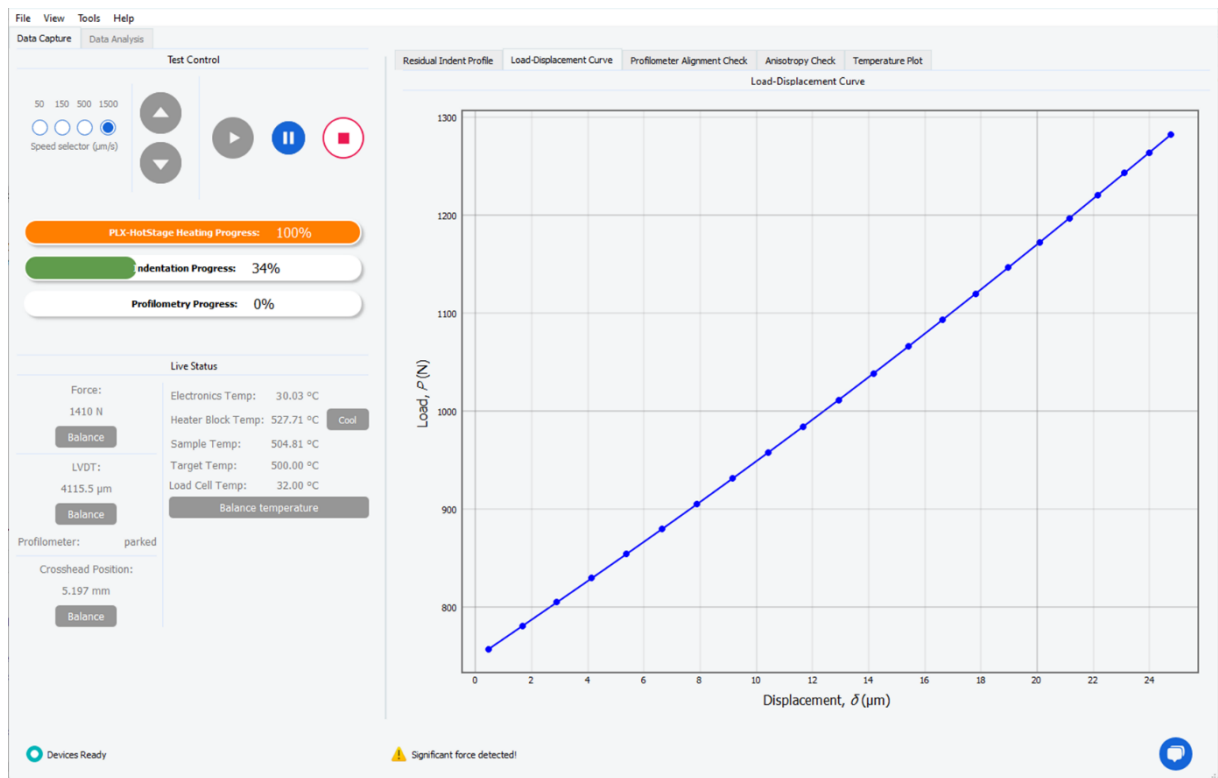

Figure 3.11 The window that appears when the indentation starts.
9. When the soak time is met, the indenter housing moves slowly down (after balancing the load cell to account for the small load cell drift), and indentation starts. During this process, the screen changes to the one shown in Figure 3.11. The load-displacement plot is progressively created during loading. Progress is represented by motion of the green LED status lights on the Plastometer and is also shown in a progress bar on the software.